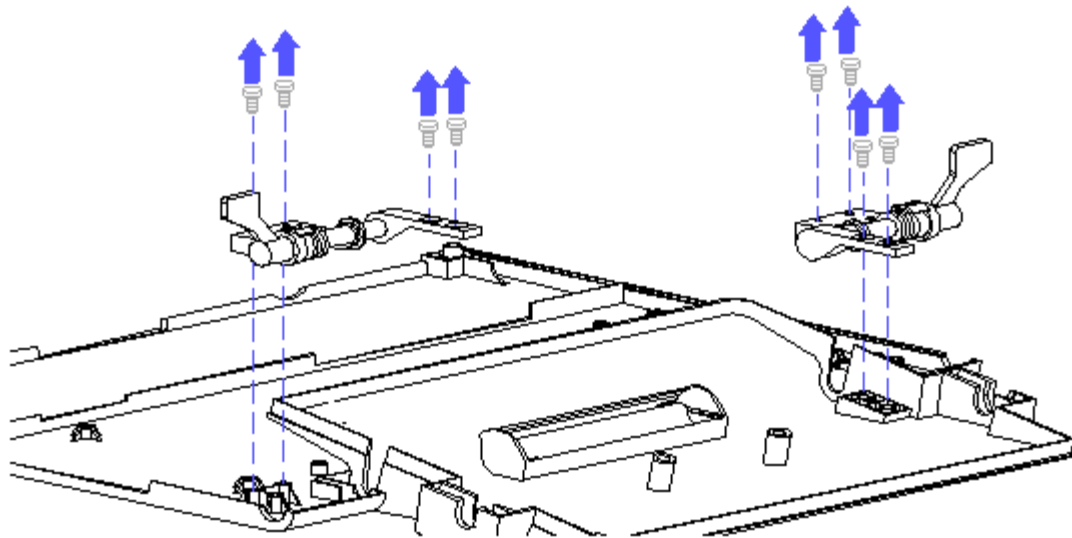

Figure 4-24. Removing the Clutch Mounting Screws
7. Remove the clutch mounting screws from the front and rear bases and remove the clutch assemblies (Figure 4-24). This releases the front and rear bases.